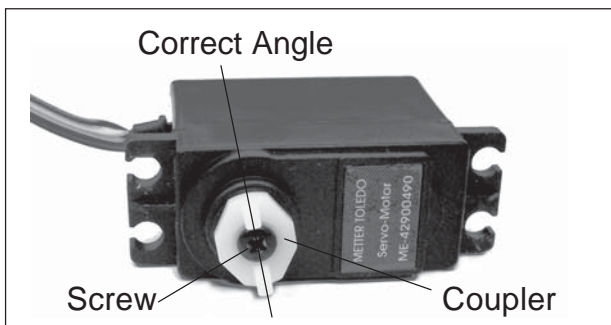
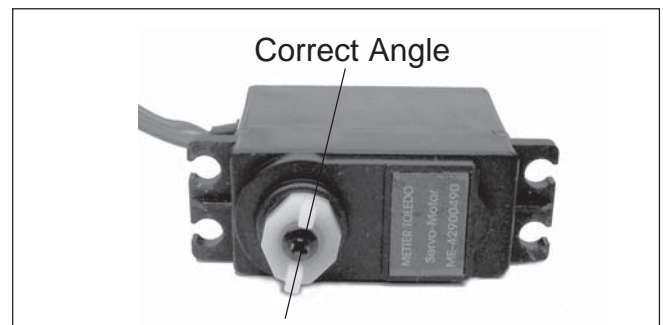

Figure 3-28. Motor Shaft in CCW Position.
Figure 3-29. Motor Shaft in CW Position.
4. On the replacement Motor, install the screw and Coupler, then rotate the Motor shaft by hand until the shaft is in a fully counter-clockwise position as shown in Figure 3-28. The Coupler should be in the position as shown, if not, remove the screw and coupler. Reposition as shown in Figure 3-28, tighten the screw on the Motor shaft. Rotate the Motor shaft in a full clockwise position. The Motor shaft should be positioned as shown in figure 3-29. If the positions are not correct, remove and reposition the Coupler again.
5. Install the InCal Motor to the InCal Mechanism, the motor shaft must be in the position as shown in Figure 3-28. The InCal Motor shaft must be in the fully counter-clockwise position.